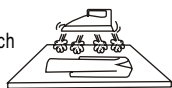

Figure 1
Hold the steam iron above the laundry and do not touch the laundry. Reshape the laundry. (As illustrated in Fig 1)
2. Put down the drain hose. Take off the drain hose frame as indicated in Figure 1. Take the drain hose into the cabinet, then nip the drain fixing clamp to make it deviated from the clip, the other hand is used to put down the drain bushing, as indicated in Figure 2, 3.